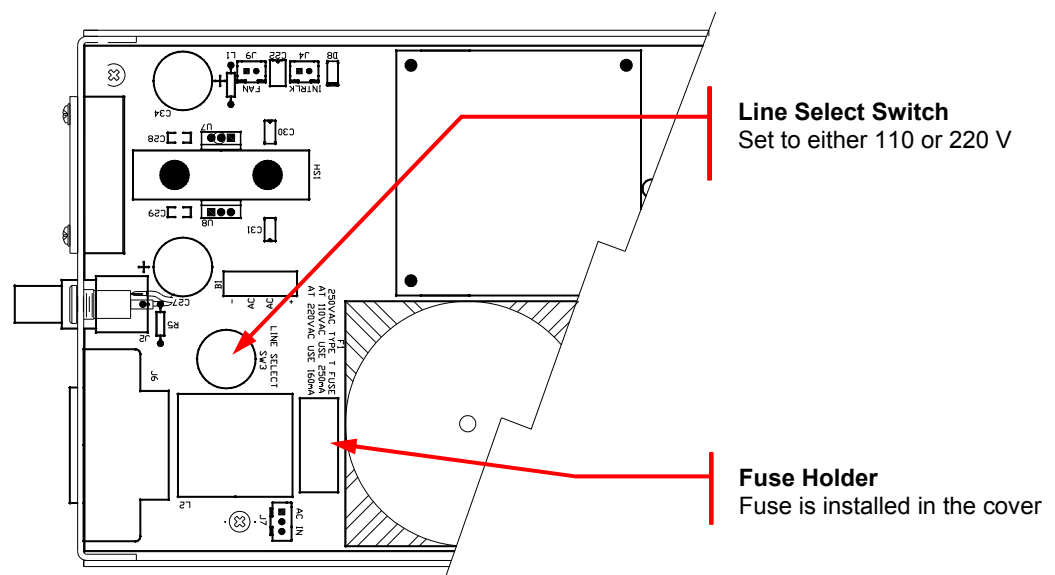

Figure 1 Locations of Line Select Switch and Fuse Holder
2. Remove the cover of the unit by removing the two 4-40 Phillips-Head screws located on the bottom rear of the unit and slide the cover off. Refer to **Figure 1** on the following page.
3. Locate the AC Line Select Switch and Fuse Holder. They are located near the AC Input Module towards the back of the unit. Refer to **Figure 1**.